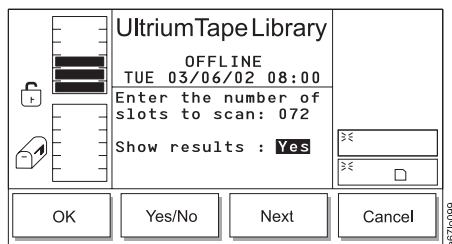

Figure 4-77. Confirm Dialog
- To specify the quantity of slots to inventory, press the button below the **Up** or **Down** softkey to increase or decrease the value in the field. The maximum number of slots that can be inventoried is 72. Press the button below the **Next** softkey. The Confirm Dialog displays (see Figure 4-77).